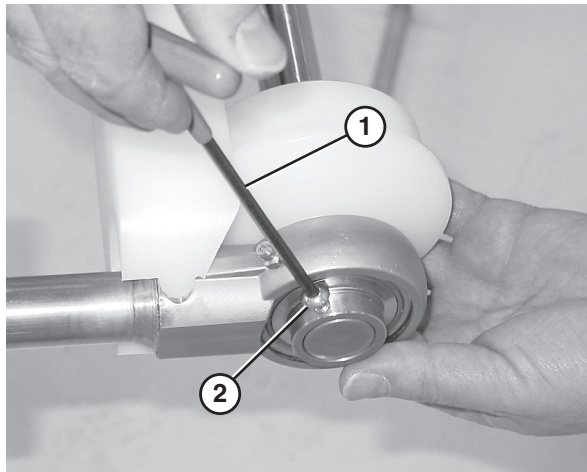

Figure 77
5. Use a hex wrench (Figure 77, item 1) to tighten the bearing shaft fasteners (Figure 77, item 2) to 54 in•lbs. Check after 24 hours of conveyor use.